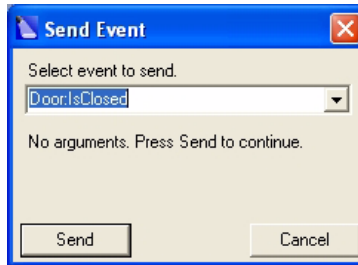

Figure 4-6. Send the Event Door:IsClosed
3. Select *Door:IsClosed* in the drop-down list (Figure 4-6).